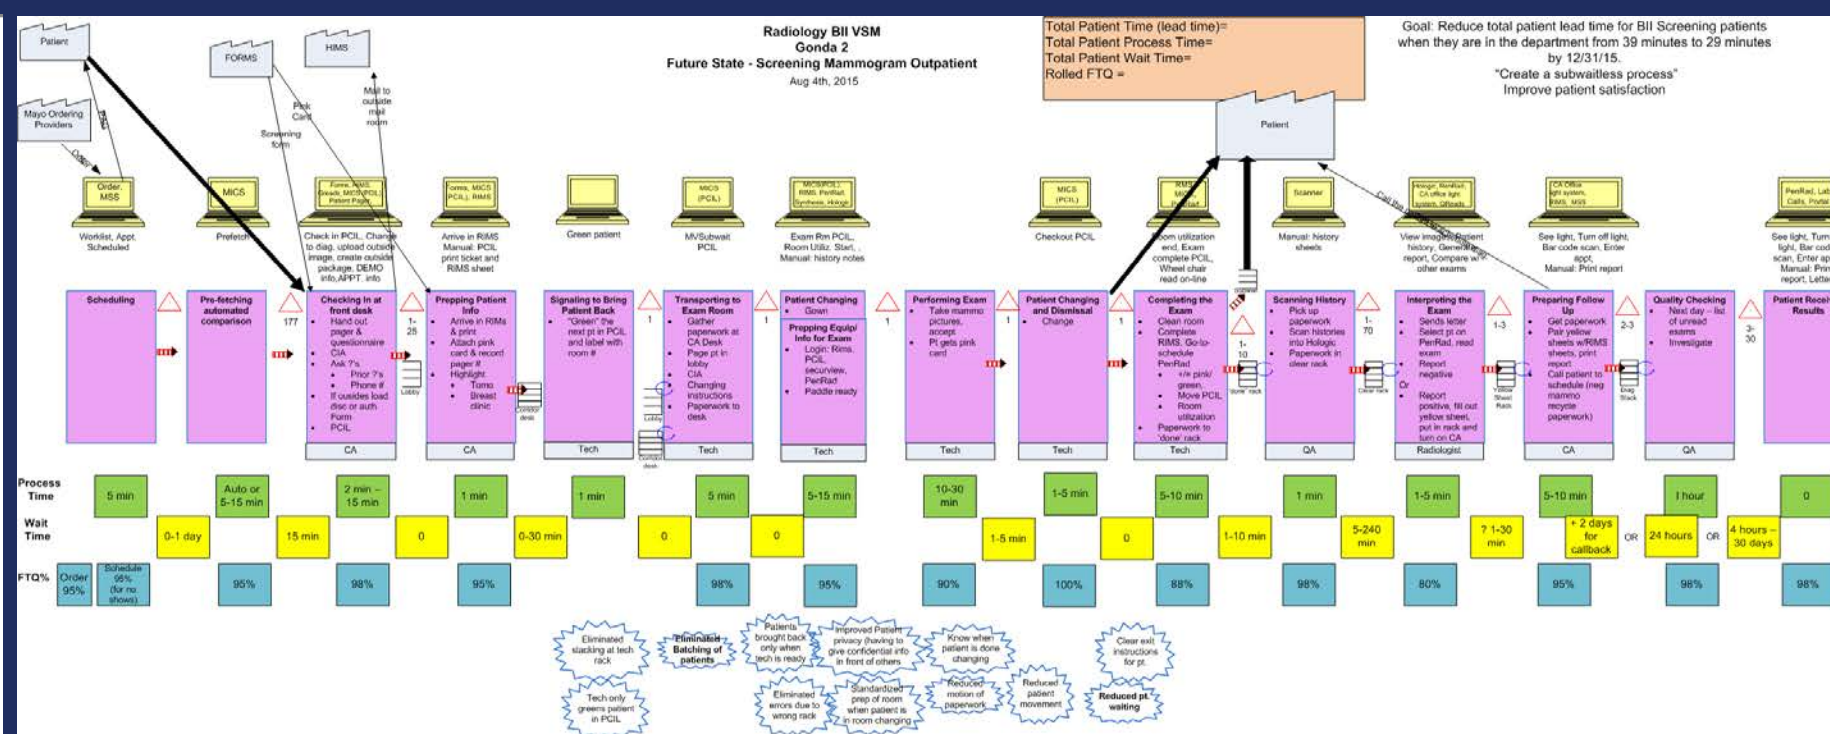

Figure 6
- As the spaghetti chart in Figure 6 shows, the new streamlined workflow uses a technologist (green) to escort an individual patient (purple) directly from the lobby to the mammogram room to change and have their exam. While certain rooms require a minimal amount of additional technologist walking, the CA and patient walk less and the patient waits less in the improved process.